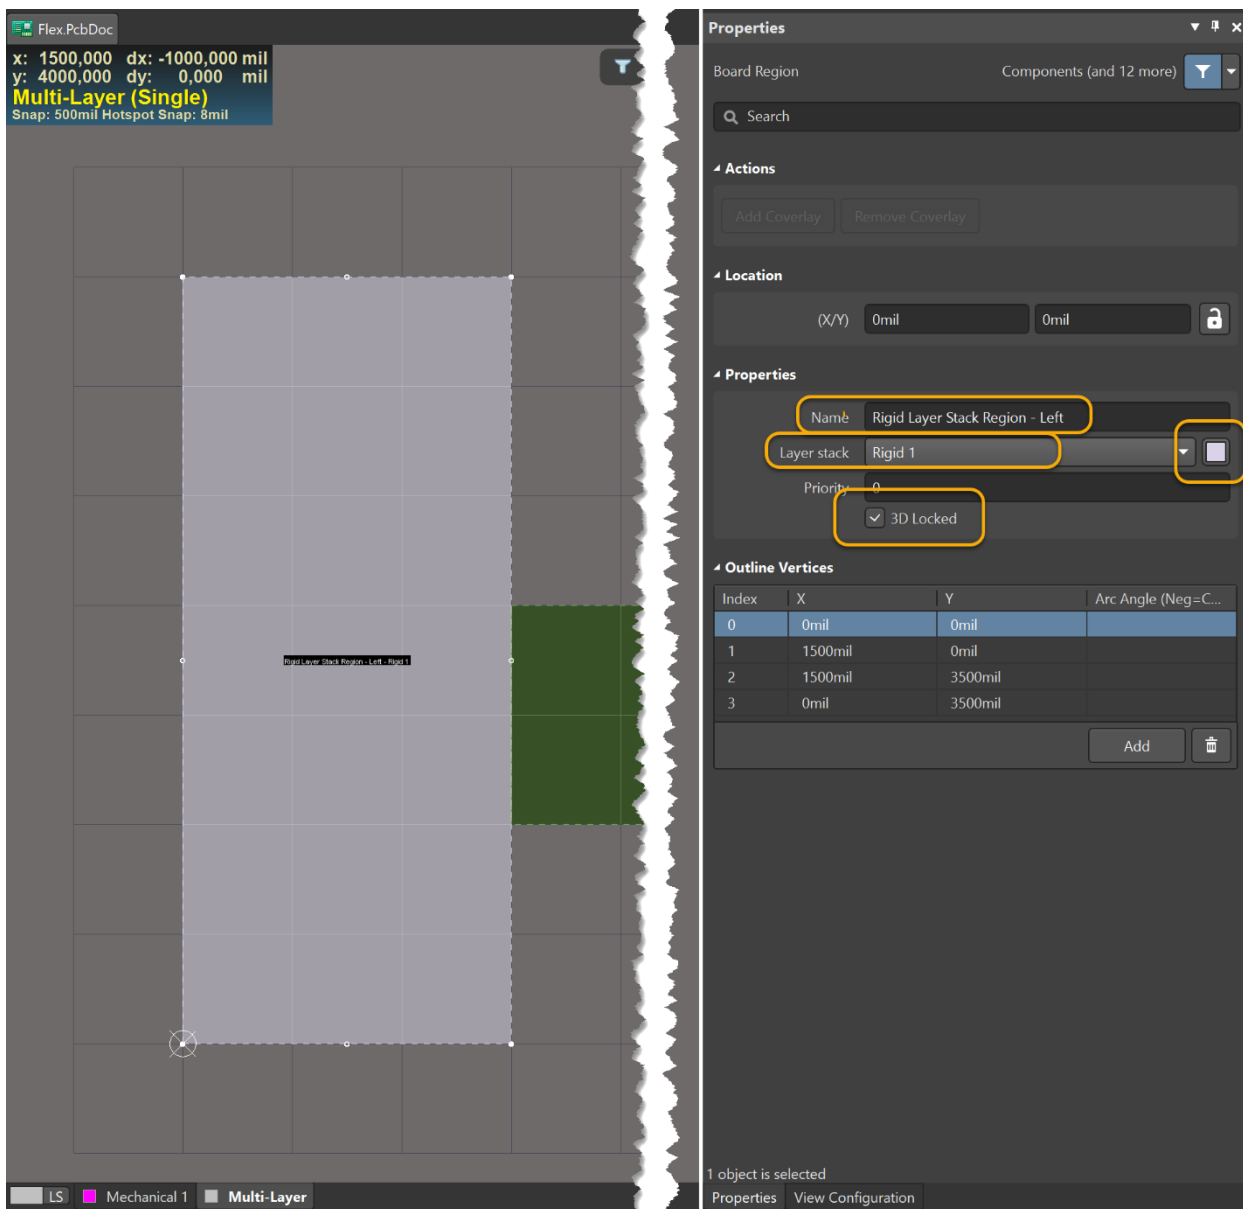

Figure 6. Left Board Region properties
- b) Set the Layer Stack to **Rigid 1** as shown in Figure 6.